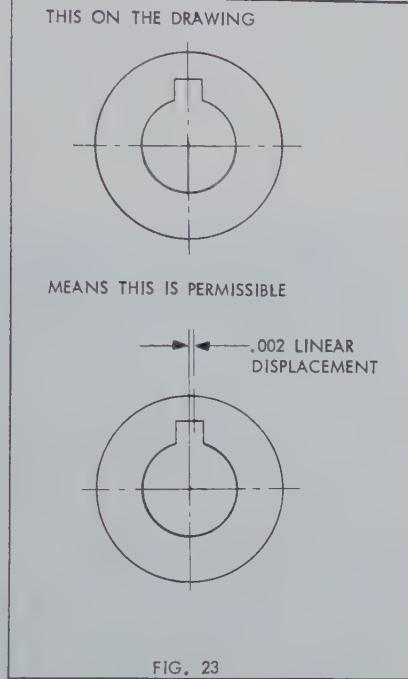

FIG. 23
**True Position — Keyways:** Keyways shall be located within .002 true position tolerance. The true position tolerance shall be related to the hole or shaft diameter, whichever is applicable. See Fig. 23.